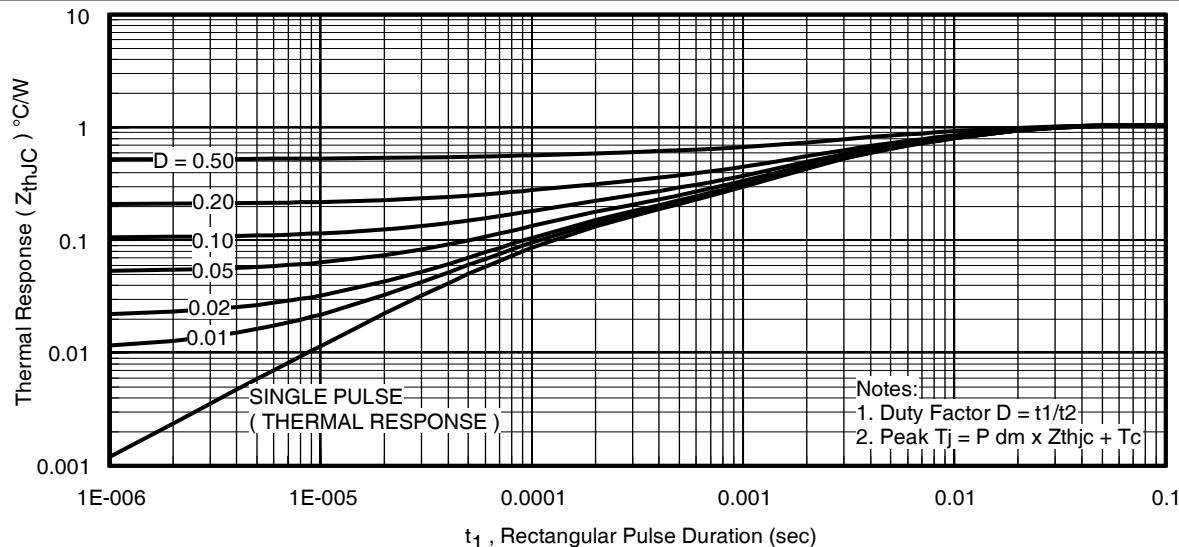

Fig 14. Maximum Effective Transient Thermal Impedance, Junction-to-Case
- $Z_{thJC}(D, t_{av})$ = Transient thermal resistance, see Figures 14)